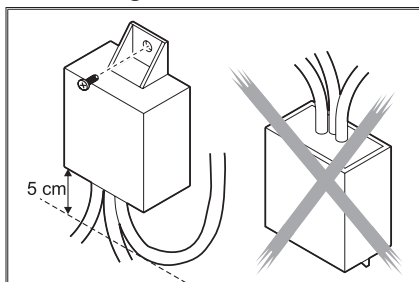

Fig. 13
**CAUTION:** if, due to limited space, the cable has to run around a corner, make sure that this is at least 5 cm away from the device, as shown in Fig. 13